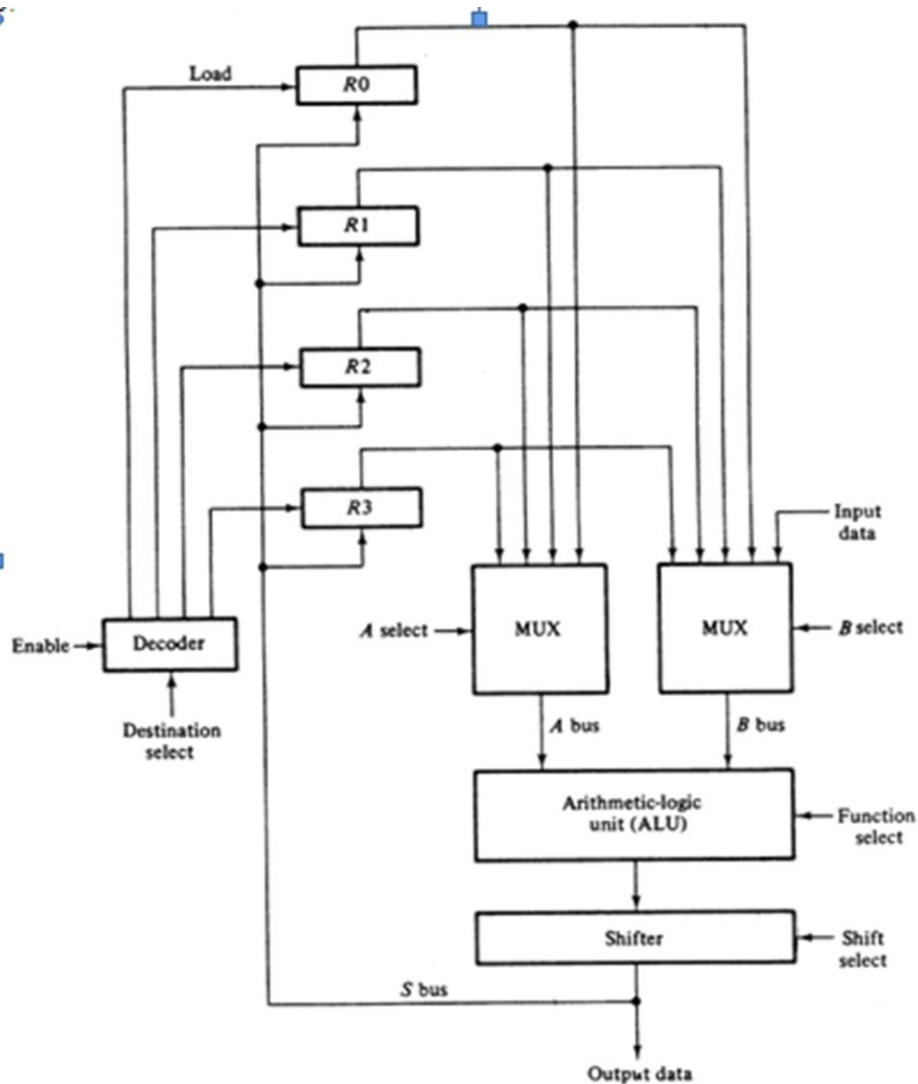

Fig 5.3 Processor registers and ALU connected through common buses
- A bus organization for four processor registers is shown in Fig.5.3.